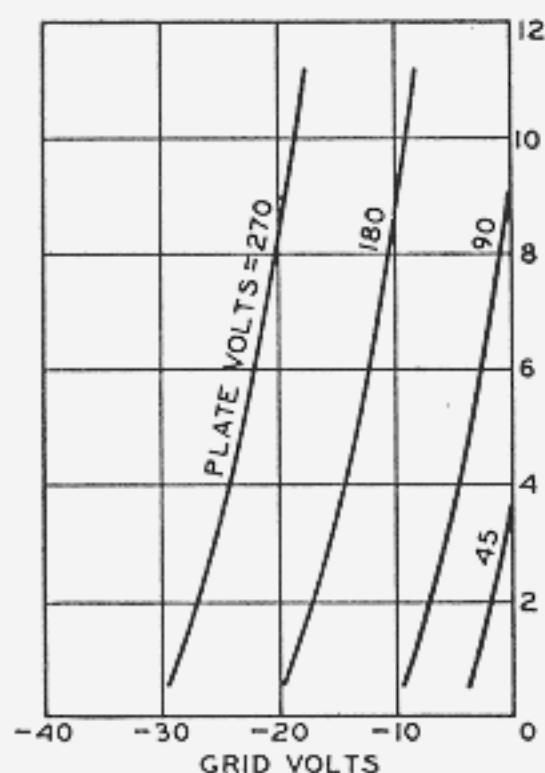
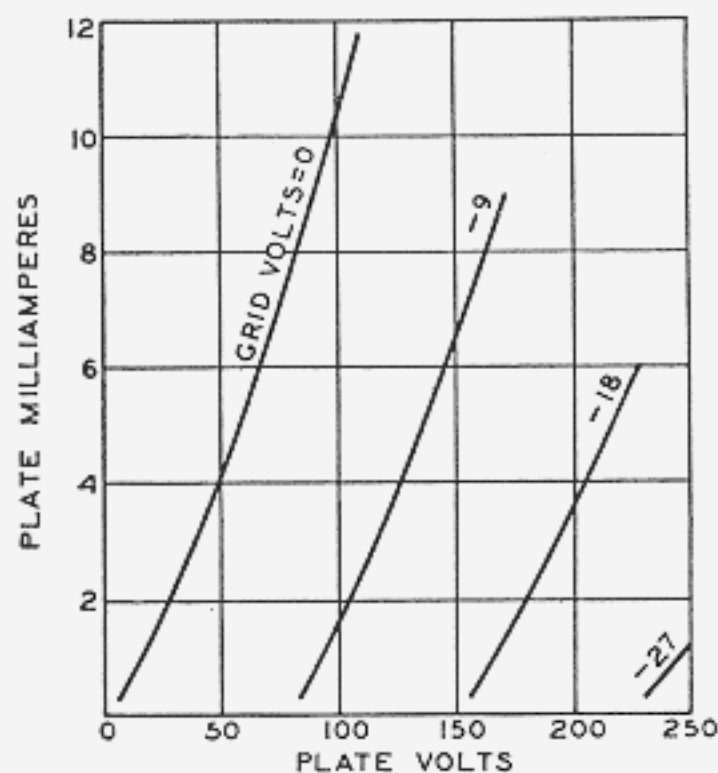

Fig. 1
Fig. 2
**Plate characteristic curves** and **mutual characteristic curves** both give information on static characteristics. These curves present the same information, but in two different forms to increase its usefulness. The plate characteristic curve is obtained by varying plate voltage and measuring plate current for different control grid bias voltages, while the mutual characteristic curve is obtained by varying control grid bias voltage and measuring plate current for different plate voltages. A plate characteristic family of curves is illustrated by Fig. 2. Fig. 1 gives the mutual characteristic family of curves for the same tube.